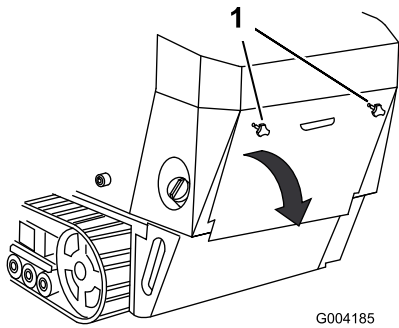

Figure 24
2. Tilt the rear access cover down and remove to access the internal components (Figure 24).